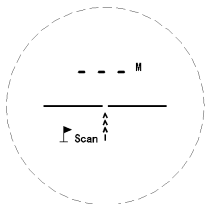
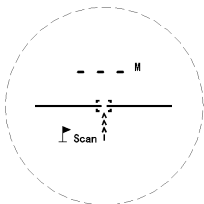
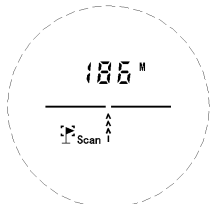

Fig. 4.1
Fig. 4.2
Fig. 4.3
2. Press down the OPEN button. The lens will display the mode at which the Laser Range Finder last shutdown. Keep pressing the MODE button till you reach the Flagpole Locking Mode (see Fig. 4.1). Aim the Laser Range Finder at the desired object. Hold down the OPEN button and the crosshairs will start flashing (see Fig. 4.2). Once the Laser Range Finder finds a suitable reflecting object in measuring distance, the measuring distance will appear up above the crosshairs and a solid dotted box will appear around the flag of the flagpole (see Fig. 4.3). This means that the Flagpole distance has been